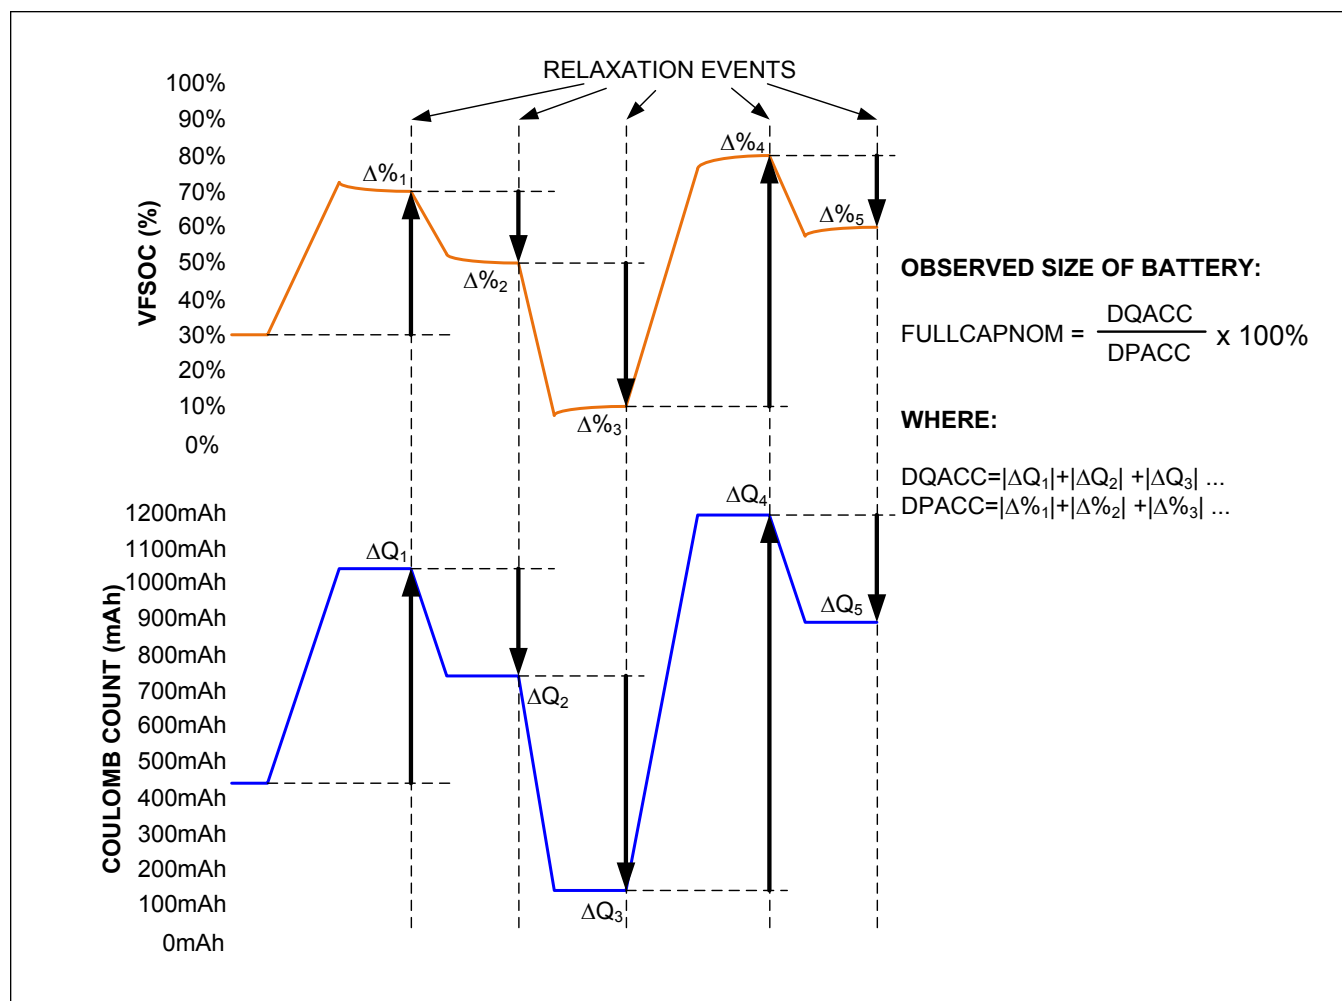

Figure 20. FullCapNom Learning
- **Cell Capacity (FullCapNom Register):** This is the total cell capacity at full, according to the voltage fuel gauge. This includes some capacity that is not available to the application at high loads and/or low temperature. The IC periodically compares percent change based on an open circuit voltage measurement versus coulomb-count change as the cell charges and discharges, maintaining an accurate estimation of the pack capacity in milliamp-hours as the pack ages. See Figure 20.